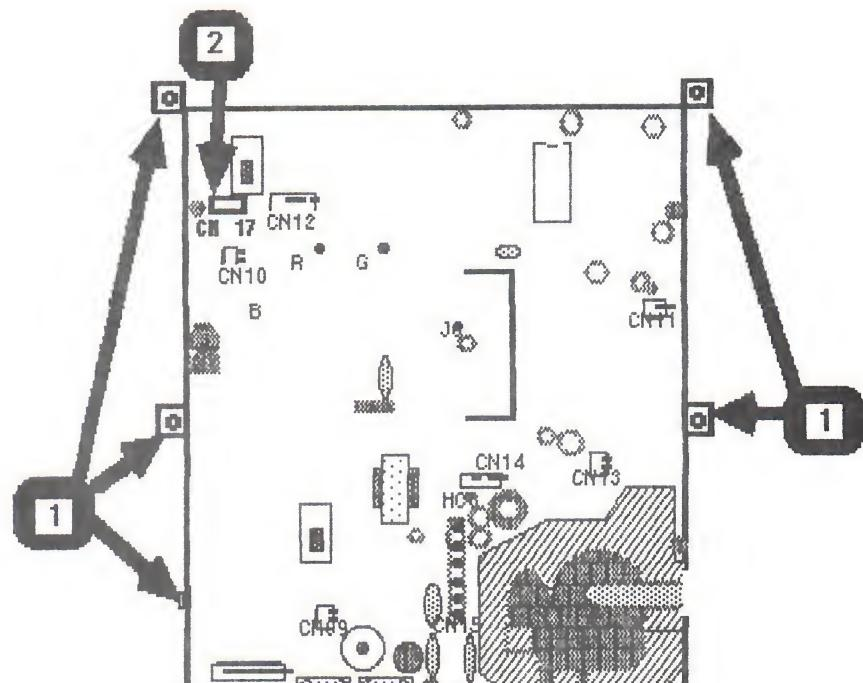
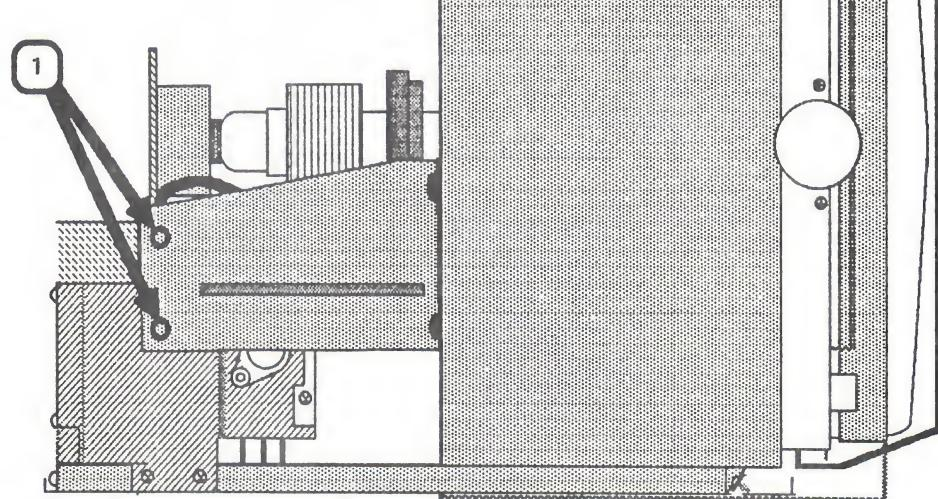

FIGURE 8
FIGURE 8A
7. Remove the five Phillips mounting screws (Figure 8, #1) from the metal plate which supports the logic board. For CRT Rev. A, also remove the two Phillips screws (Figure 8A, #1) securing the support bracket to the side of the flyback transformer.